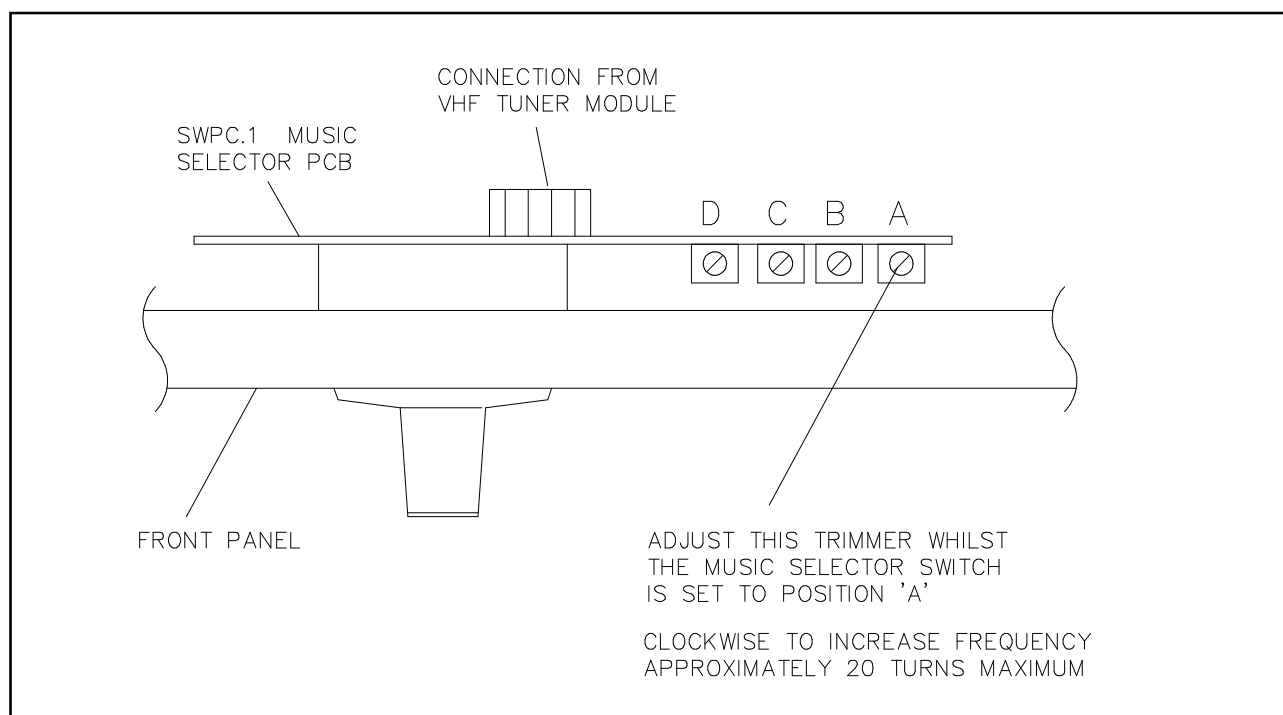

Fig.1 Location of the VHF station adjusters
The AM module is crystal controlled and therefore has no adjustments for frequency. The VHF module, in conjunction with the front panel music selector switch can provide up to 4 programs. To tune into a station, set the selector switch to position A and adjust the corresponding helical pre-set resistor on the selector PCB, until the required station is located. This multi-turn adjuster is mounted on the extreme right of the PCB on which the selector switch is mounted, inside the amplifier. See Fig.1 Adjustment is clockwise to increase frequency up to 108MHz and anti-clockwise to lower frequency to 88MHz. Repeat this process for each switch position.
- The four VHF stations selectable by the front switch are tuned-in on installation by adjustment of the corresponding pre-sets on SWPC.1. See Fig.1 and APPENDIX D for identification. Adjust clockwise to increase frequency.